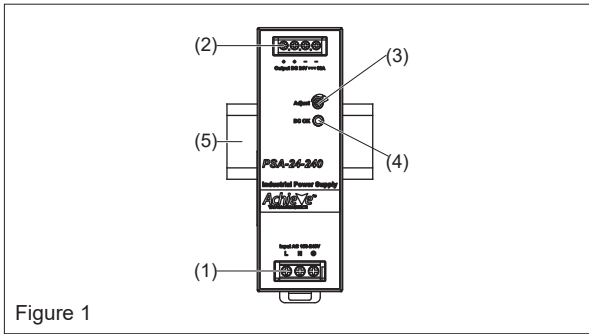
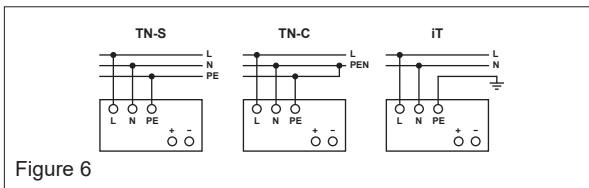

Figure 1
Figure 6
2. Device description (Fig. 1)
5.1. Input connection (Fig. 1, Fig. 6)
Use L, N and PE connections of input terminal connector (see Fig. 1 (1)) to establish the 100-240 VAC connection. The device has an internal fuse. The unit is tested and approved with branch circuit protective device up to 20 A.
5.2. Output Connection (Fig. 1 (2))
Use the "+" and "-" screw connections to establish the 12 VDC, 24 VDC and 48 VDC connection. The green LED DC OK displays correct function of the output (Fig. 1 (4)). The device has a short circuit and overload protection.